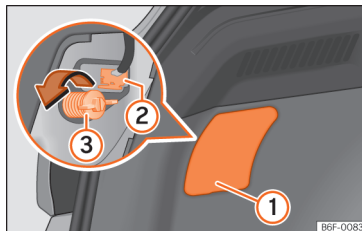
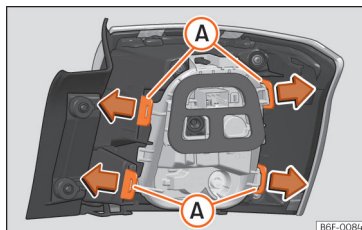

Fig. 171 Luggage compartment: access to the bolt securing the tail light unit.
Fig. 172 Retaining tabs on the reverse side of the tail light.
- Remove the lid by levering the flat side of a screwdriver into the recess »» **Fig. 171** ①.
- Remove the bulb connector ②.
- Unscrew the bolt securing the light ③ by hand or using a screwdriver.
- Remove the bulb holder by unlocking the retaining tabs »» **Fig. 172** A.